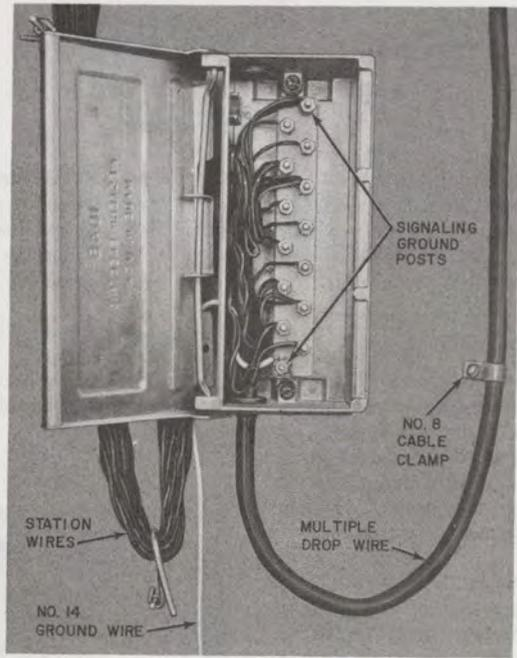

Fig. 2—Wiring of 104B Wire Terminal
**2.02** The 104B wire terminal shown in Fig. 2 employs a mounting which is an aluminum die cast box, with a toggle-type cover similar to the cover on the 104A. It is equipped with a terminal block having facilities for connecting 6-pair multiple drop wire. Two binding posts, one at each end of the block, are strapped together internally and are used for signaling grounds.
- (1) Attach the 45A bracket to mounting surface with No. 14 RH galvanized wood screws or equivalent. Screws shall be of sufficient length to mount securely.
- (2) Set the terminal in position on the 45A bracket and secure with four self-tapping screws.
**3.02 104B:** The 104B wire terminal can be mounted either horizontally or vertically. Two mounting holes are provided. (Fig. 2). Use No. 14 RH galvanized screws of sufficient length to mount securely.